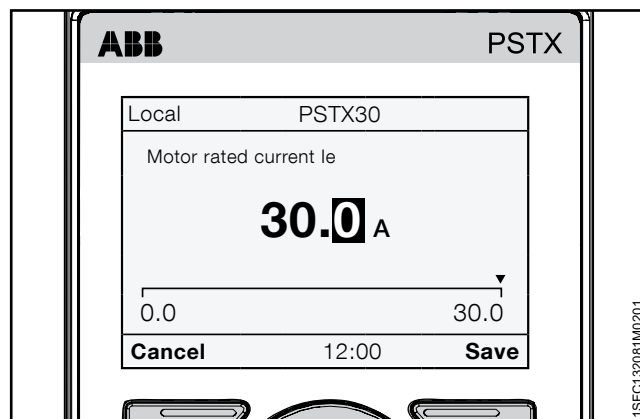

Figure 6.9
1. The Home view is the top level. Push  “Menu” to enter the menu. The screen now appears as in **Figure 6.9**.
See **Figure 6.9**. If you want to quit, you select  “Cancel”.